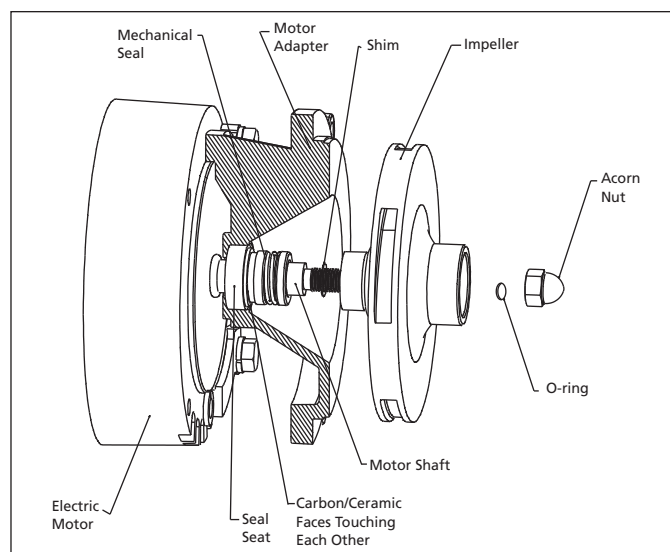

Figure 6 - Seal and Impeller Assembly
6. Wet the inside rubber portion of the new seal head (part of Ref. No. 6) with a light coating of soapy water. Slide head onto the motor shaft with the precision sealing surface (carbon) facing the seal seat ceramic face (See Figure 6). This completes seal installation.
7. Screw impeller (Ref. No. 8) onto shaft. Use screwdriver slot at rear of motor shaft (opposite the threaded end) to tighten impeller (See Figure 6).